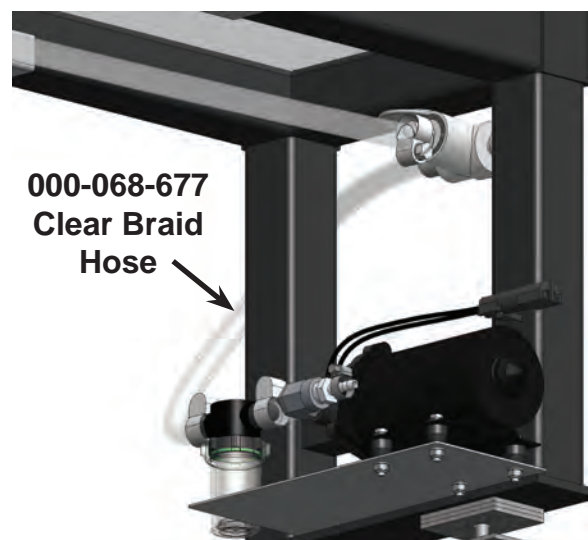

Figure 72. Connect Hose from 3-Way Ball Valve to Strainer
4. A clear braid hose, P/N 000-068-677, is pre-installed onto the 3-way ball valve at the factory. Connect that hose to the pump's strainer (see Figure 72).